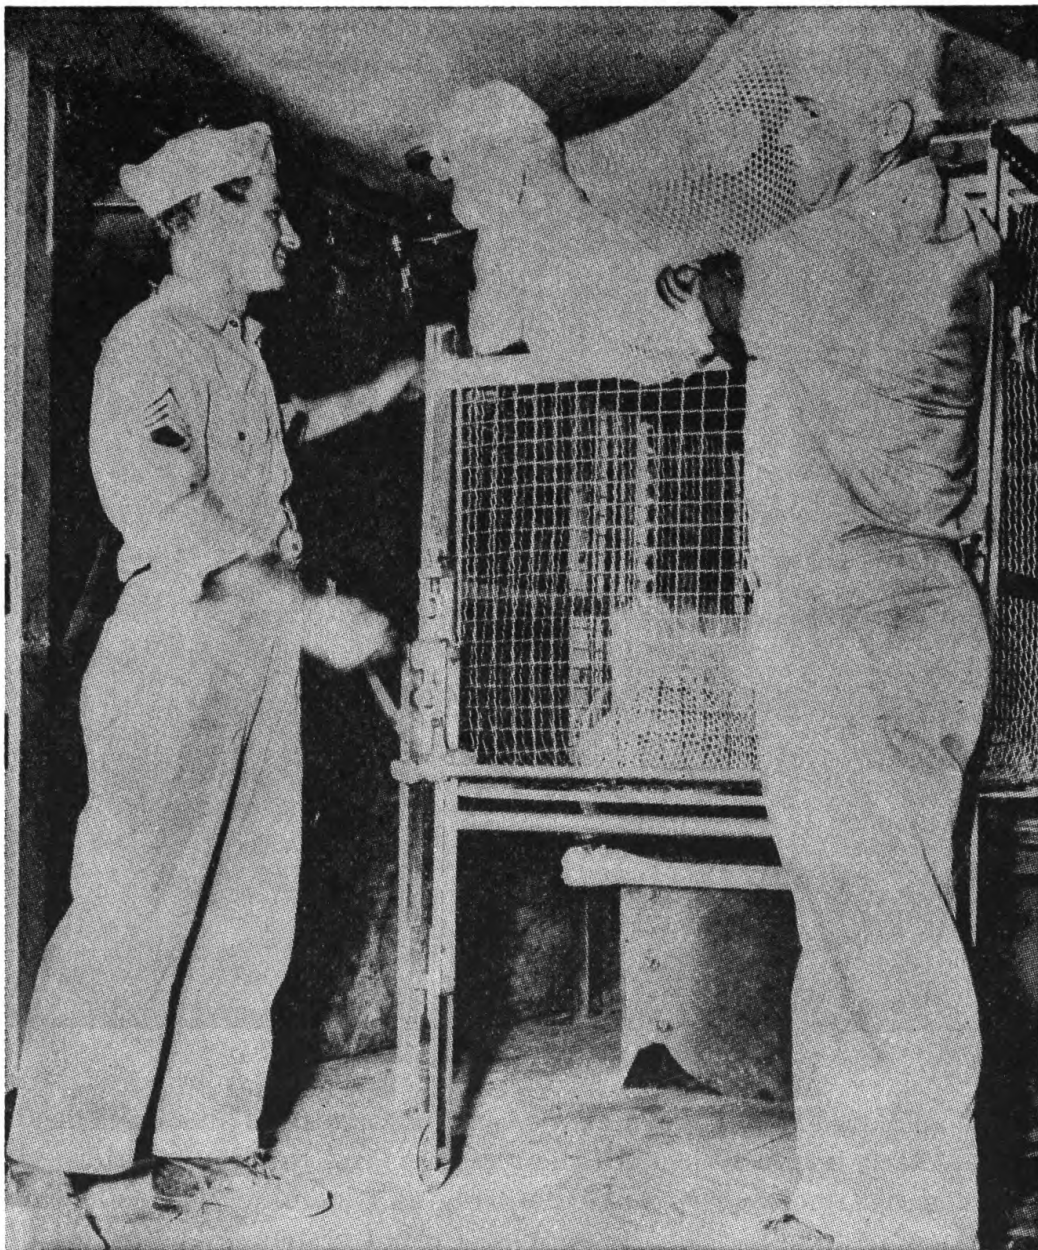

FIGURE 4.—Placing clothing in sterilizer basket.
8. Sterilization of clothing.—*a.* Nets of clothing received from the processors are placed in the sterilizer basket by the sterilizer operators as illustrated in figure 4. Approximately 50 nets should constitute a load but under no circumstances should nets be packed tightly in the basket. No leather goods should be placed in the basket. The basket is then pushed into the chamber and the door closed and secured.